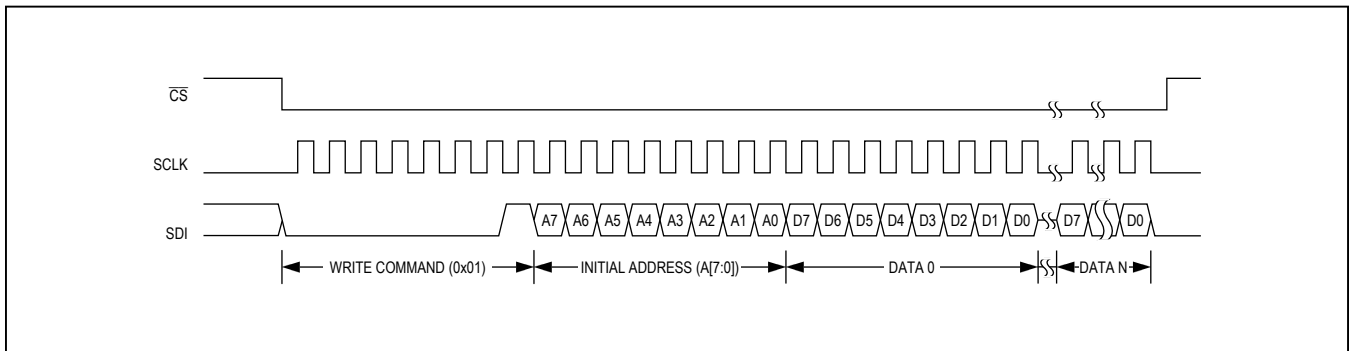

Figure 3. SPI Write Command Format
**Write:** The write command (0x01) is used to program the MAX7057 registers (see Tables 2 and 3). The format shown in Figure 3 must be followed, allowing all the registers to be programmed within one  $\overline{CS}$  cycle.